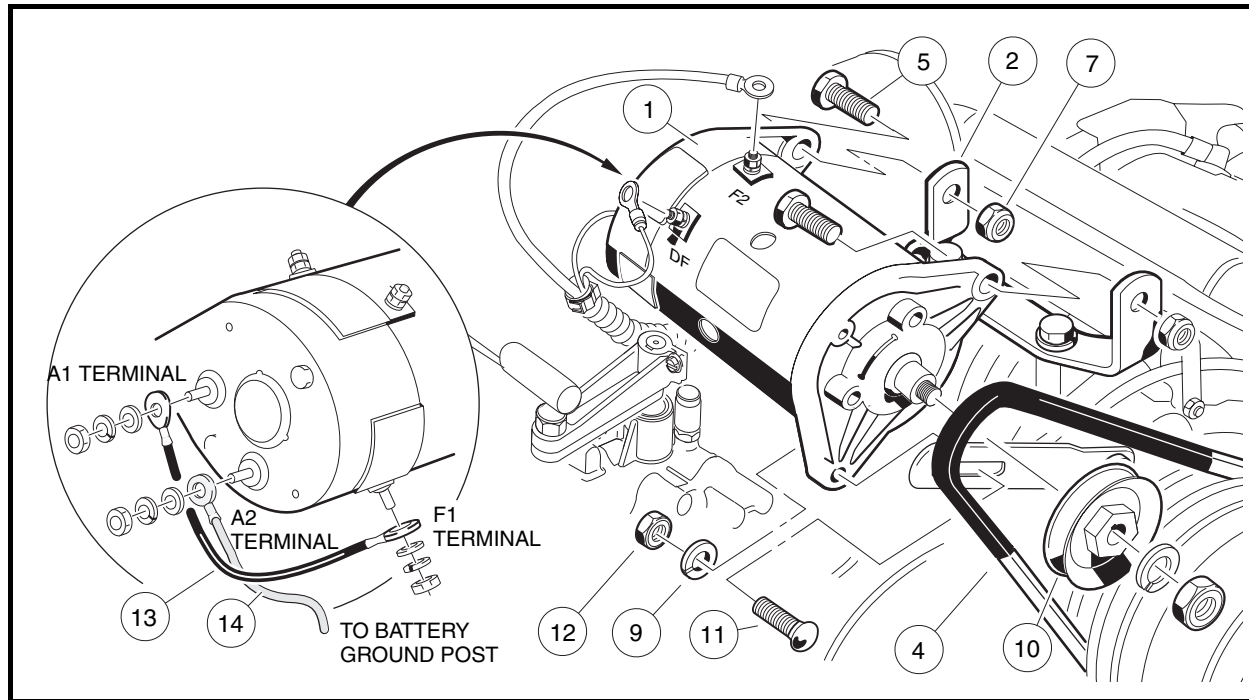

Figure 13-1 Starter/Generator Removal
3. Disconnect the wires from the starter/generator (1). Mark wires before disconnecting. Loosen the pivot nuts (7) and bolts (5) (**Figure 13-1, Page 13-2**).
4. Remove the mounting/adjustment nut (12), washer (9) and bolt (11). Lower the starter/generator and slip the belt (4) off the pulley (10).
5. Support the starter/generator so that when the pivot bolts are removed the starter/generator will not fall to the ground. Remove the two pivot nuts (7) and bolts (5) from the mounting bracket.